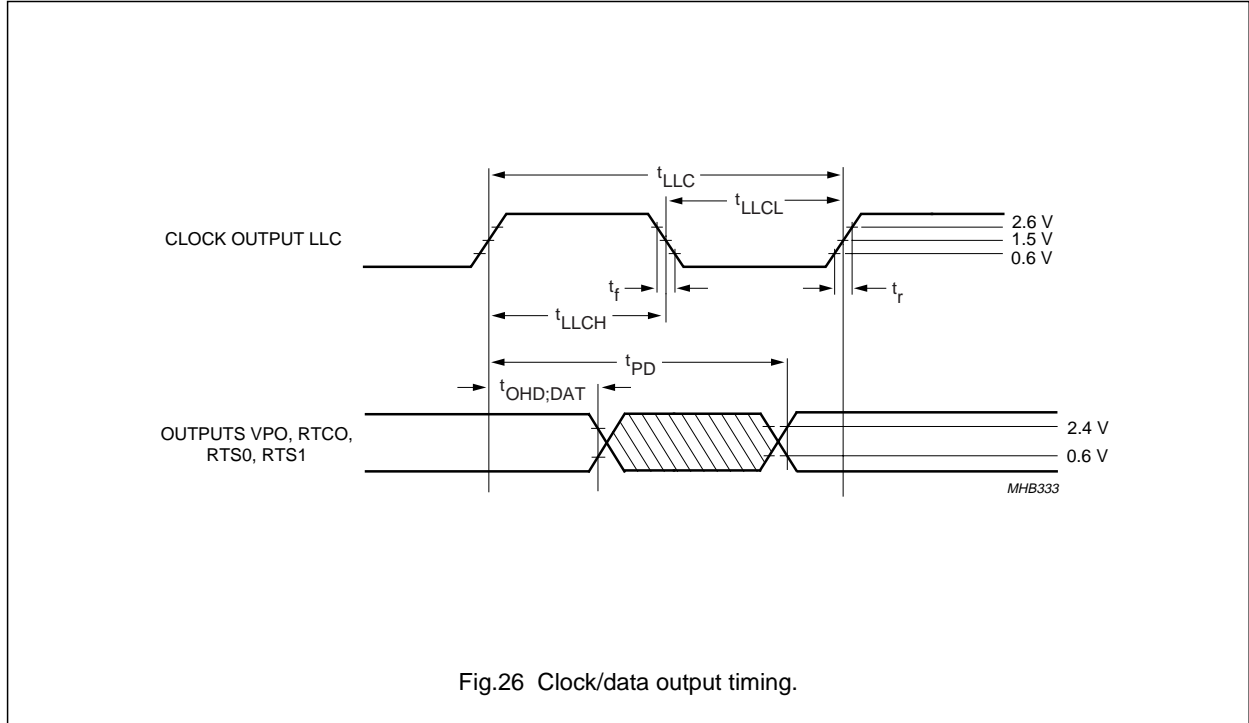

Fig.26 Clock/data output timing.
- The effects of rise and fall times are included in the calculation of  $t_{OHD;DAT}$ ,  $t_{PD}$  and  $t_{PDZ}$ . Timings and levels refer to drawings and conditions illustrated in Fig.26.